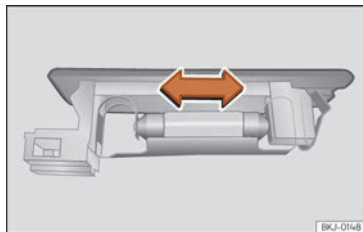

Fig. 169 Boot light.
- Press the bulb sideways and remove it from its housing >>> Fig. 169.